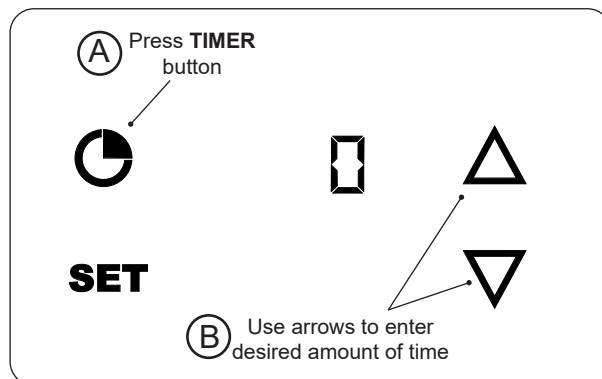

Fig. 36-1 Set timer
1. With the thermometer **on**, press the **TIMER** button once (Fig. 36-1, A). A zero will display indicating that no timer is set.
2. Press the **UP** or **DOWN** arrows to enter the desired amount of time (Fig. 36-1, B).